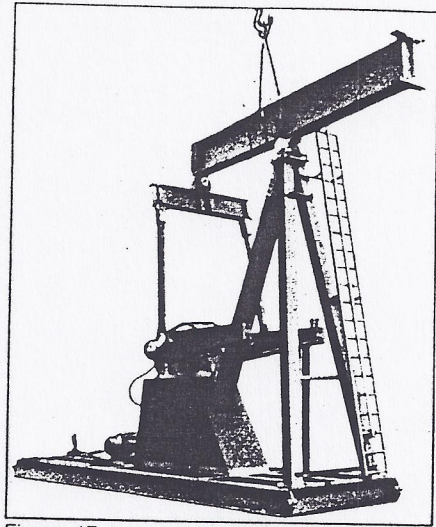

Figure 17
- a. Using two slings placed around walking beam in such a manner that when the beam is lifted it will be in level position, lift walking beam assembly and place center bearing on top of samson post. Be sure bottom surface of housing and top of samson post plate are free of any cosmoline, dirt, paint or burrs to ensure metal-to-metal contact. See illustration in Figure 17.